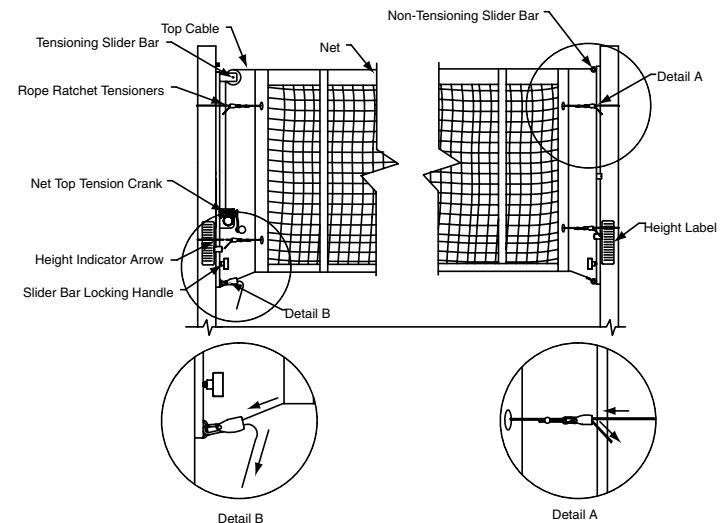

Figure 3
- ⑤ Uncoil approximately 24" of the web strap from the winch to allow for net tensioning.
- ⑥ Attach the kevlar top rope to the slider bars (B) and (C). On the cable tensioning slider bar (B), the rope will loop over the pulley and attach to the spring clip on the end of the winch strap. On the non-tensioning slider bar (C) attach the loop to the hook on the top of the slider bar (Fig. 3).
- ⑦ Tension the top rope by tightening the net top tension winch.
- ⑧ Attach the loop on one end of the bottom rope to the hook on the bottom of the slider bar. Attach the other end of the bottom rope with the spring hook on the rope ratchet. Tension the bottom rope by pulling the rope through the bottom rope ratchet tensioner (H) (Fig. 3).
- ⑨ Loop two small rope ratchet assemblies (H) around each standard and through the eyelets on the net side tapes. Tension the net sides by pulling the end of the ropes. Release the rope ratchet by pressing on the release button. Ratchets should be rotated close to the pole and behind the padding to prevent contact with players (Fig. 3).
- ⑩ Once the net is attached it must be adjusted to its desired height. Loosen the winch to release the net tension. Do this before moving the slider bars (Fig. 3).
- ⑪ After the net tension has been released, loosen the slider bar locking knobs to allow the slider bars to freely move up and down. Adjust net to desired height. Once the top of the net is at the desired height, tighten the slider bar locking knobs and net top tension winch.
- ⑫ Once the net is locked and tensioned at the desired height, install the height labels (D). Line up the appropriate line on the height label with the orange height indicator arrow.
- ⑬ Install padding and antennas.